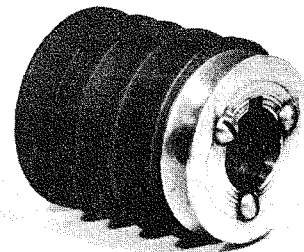

Figure 6
11. Install $2\frac{1}{4}$ " pulley to engine crank shaft and 5" pulley to pump. There are a few 552 engines in service with short crank shafts and on these it will be necessary to remove the 3 groove pulley from tractor and drill and tap and bolt the $2\frac{1}{4}$ " pulley to its outside faces. See Figure 6. This will not be necessary where crank shaft is long enough.